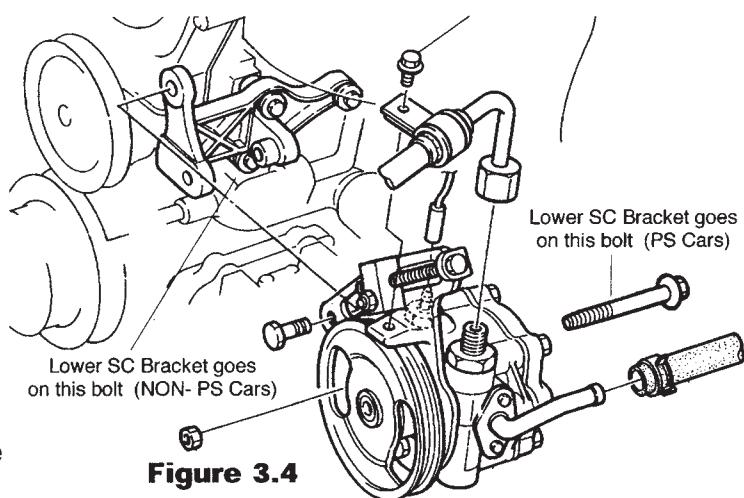

Figure 3.4
3.6 NON POWER STEERING CARS: Locate your lower bracket assembly from the kit. The end with the small 90-degree bracket mounts to the idler bracket (standard on AC equipped cars) or to new idler bracket (supplied with kit for non-AC, non-PS cars). Use the new, longer 10mm bolt provided to attach this bracket to the engine (Review figure 3.4 for bolt location).
Loosen the pinch bolts on your relocated power steering adjustment assembly (12mm head on pillow block pinch bolt, 14mm head on lower front bolt). Tighten the long bolt "D" per figure 3.4 to achieve correct belt tension. The longest run of the belt should not deflect more than 1/2" when pressed down with around 22 pounds of thumb pressure. The tension specification is 90 pounds. An easy check for proper belt tension is done by listening to your belts during warm up. If turning the steering wheel with the air conditioning creates a squeal, then the tension is too loose. In general, only a slight amount of black dust should appear around the supercharger nose when the tension is correct. Heavy dusting indicates excessive belt wear from a loose belt. Check your tension again